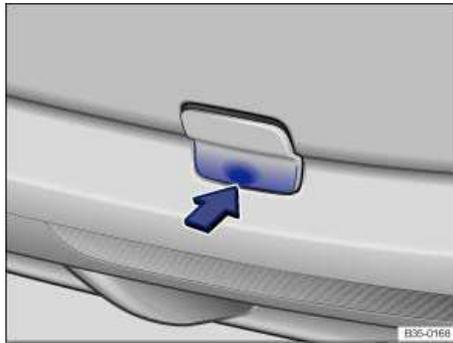

Fig. 214 In the right rear bumper: Removing the cover cap.
The mount for the threaded towing eye is located in the right rear bumper behind a cover cap ⇒ fig. 214.
- Push on the bottom of the cover ⇒ fig. 214 (arrow) so that it pops out.